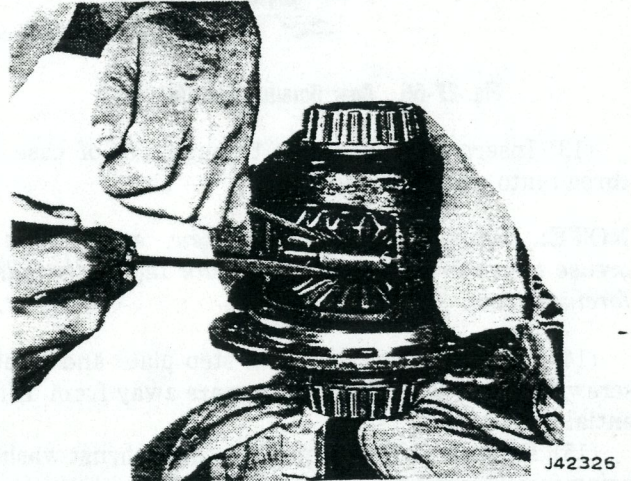

Fig. 2F-64 Pinion Mate Shaft Snap Ring Removal
- (6) Remove ring gear from case using rawhide hammer.
(7) Remove differential case from axle shaft and remove ring gear.
(8) Remount differential case on axle shaft.
(9) Remove snap rings from pinion mate shaft (fig. 2F-64). Use two screwdrivers to disengage snap rings. Place shop towel on opposite opening of case to prevent snap rings from flying out of case.